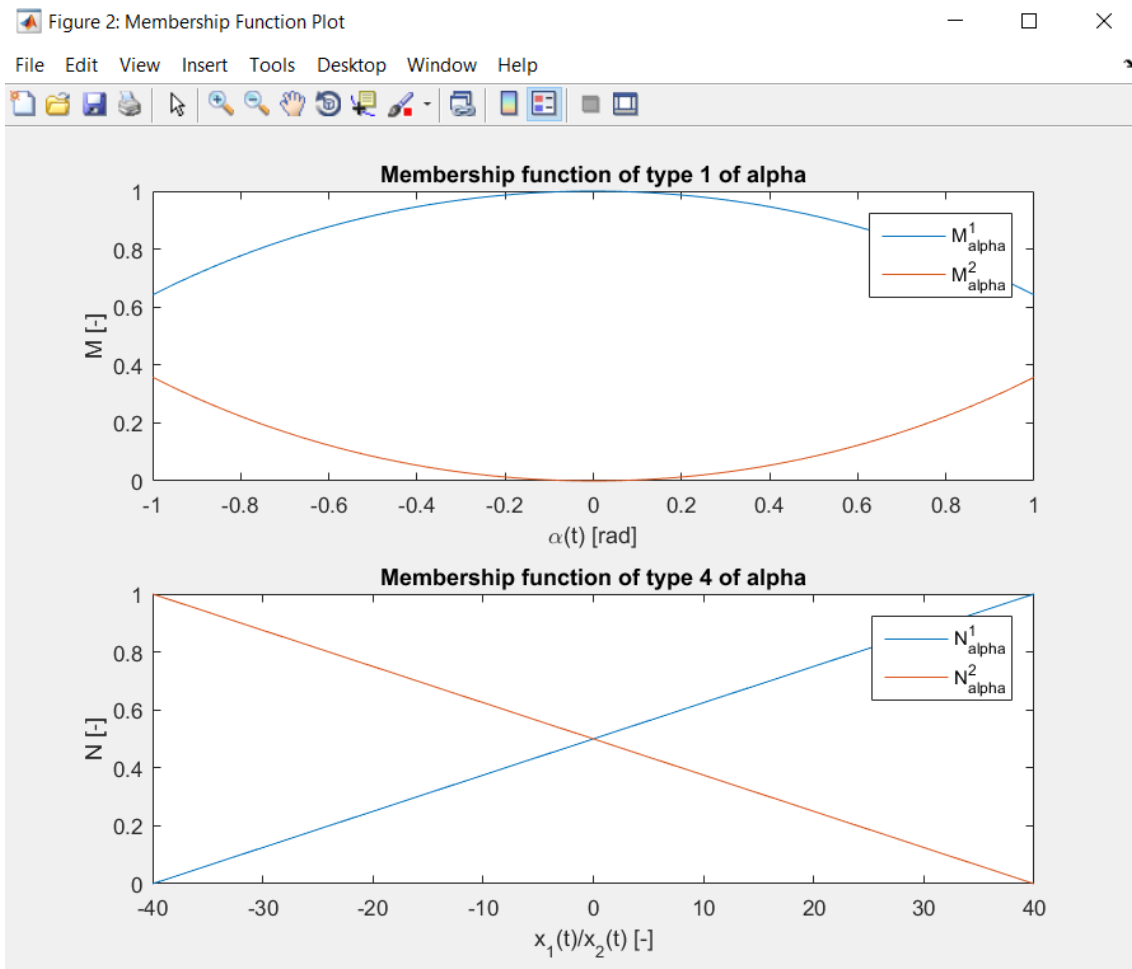

Figure 6: Membership functions figure
- **Plot Membership Button:** Once the non-linear term is selected, a figure containing all the membership functions that the non-linear term computes in the fuzzy model. For more information about the membership types description and nomenclature, see *Toolbox Documentation.pdf*. An example is shown in figure 6.